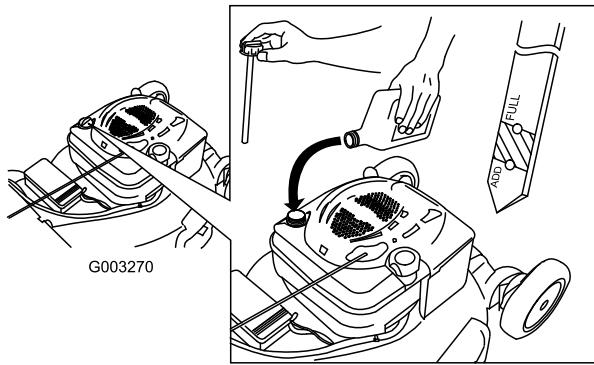

Figure 42
4. Slowly pour oil into the oil fill tube until the oil level reaches the Full line on the dipstick (Figure 42). **Do not overfill.** (Max. fill: 20 oz. (0.59 l), type: SAE 30 detergent oil with an API service classification of SF, SG, SH, SJ, SL, or higher.)